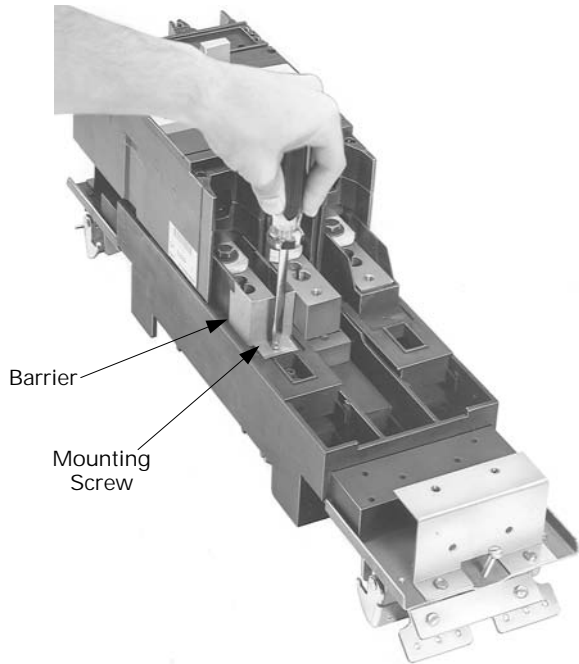

Figure 4. Preparing the breaker module for a two-breaker installation.
3. **Prepare the breaker module (for two breakers only).** Before installing the breakers on the module, remove the barriers and screws, as shown in Figure 4.